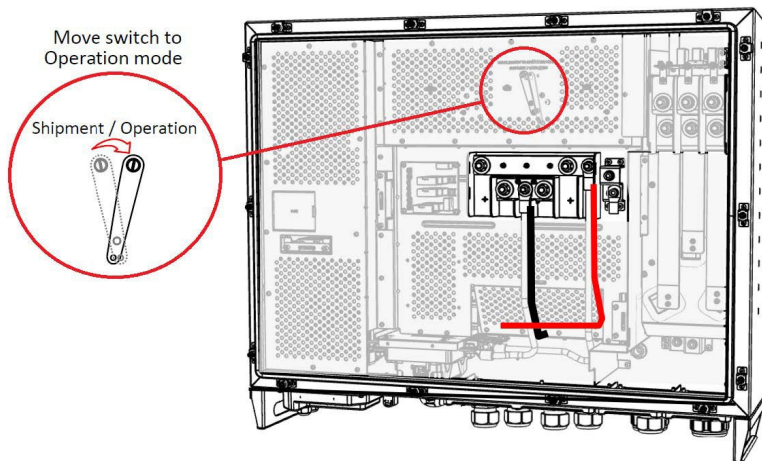

Figure 28 Unlocking the inverter
1. To unlock the inverter and enable power production, move the lock from SHIPMENT to OPERATION (see Figure 28).